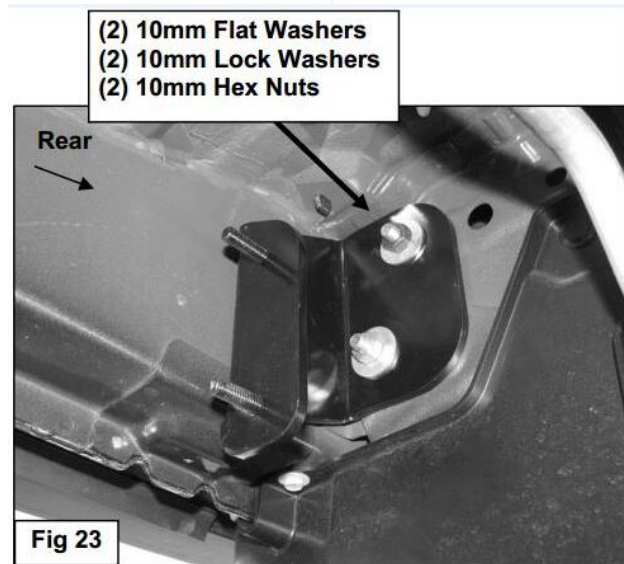

Fig 23
17. Select the passenger side rear Frame Bracket, **(Figure 22)**. Attach the Frame Bracket to the Double Bolt Plate with (2) 10mm Flat Washers, (2) 10mm Lock Washers and (2) 10mm Hex Nuts, **(Figure 23)** Do not tighten hardware at this time. Next, attach the driver side Rear Mounting Bracket to the front of the Frame Bracket with (2) 8mm Flat Washers, (2) 8mm Lock Washers and (2) 8mm Hex Nuts, **(Figure 24)**. Do not tighten hardware at this time.